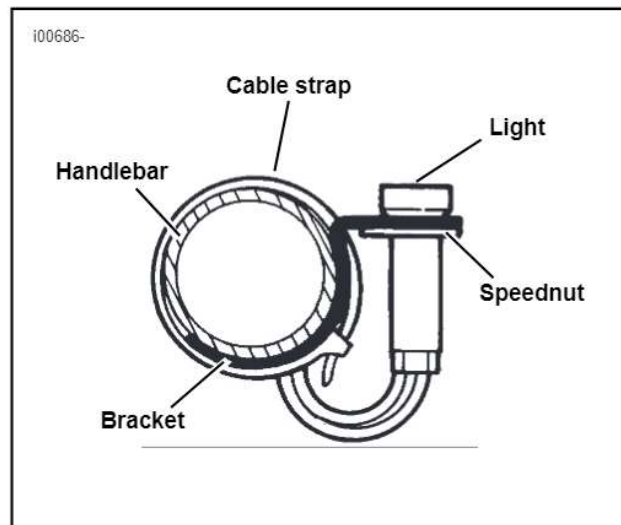

Figure 1. Handlebar Mounting
1. See Figure 1. Position indicator light in mounting bracket from kit. Secure from back of bracket with speed nut on indicator light body. Secure mounting bracket to a convenient location on handlebar with cable strap. Pull tight with pliers and trim end.